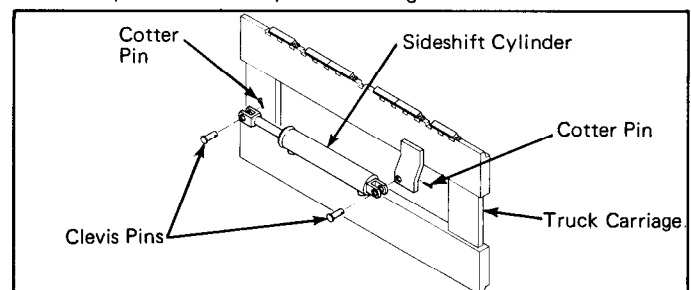

Figure 6. Removing the Sideshift Cylinder
2. Remove the cylinder from the Sideshifter by removing the cotter pins and clevis pins. See Figure 6.